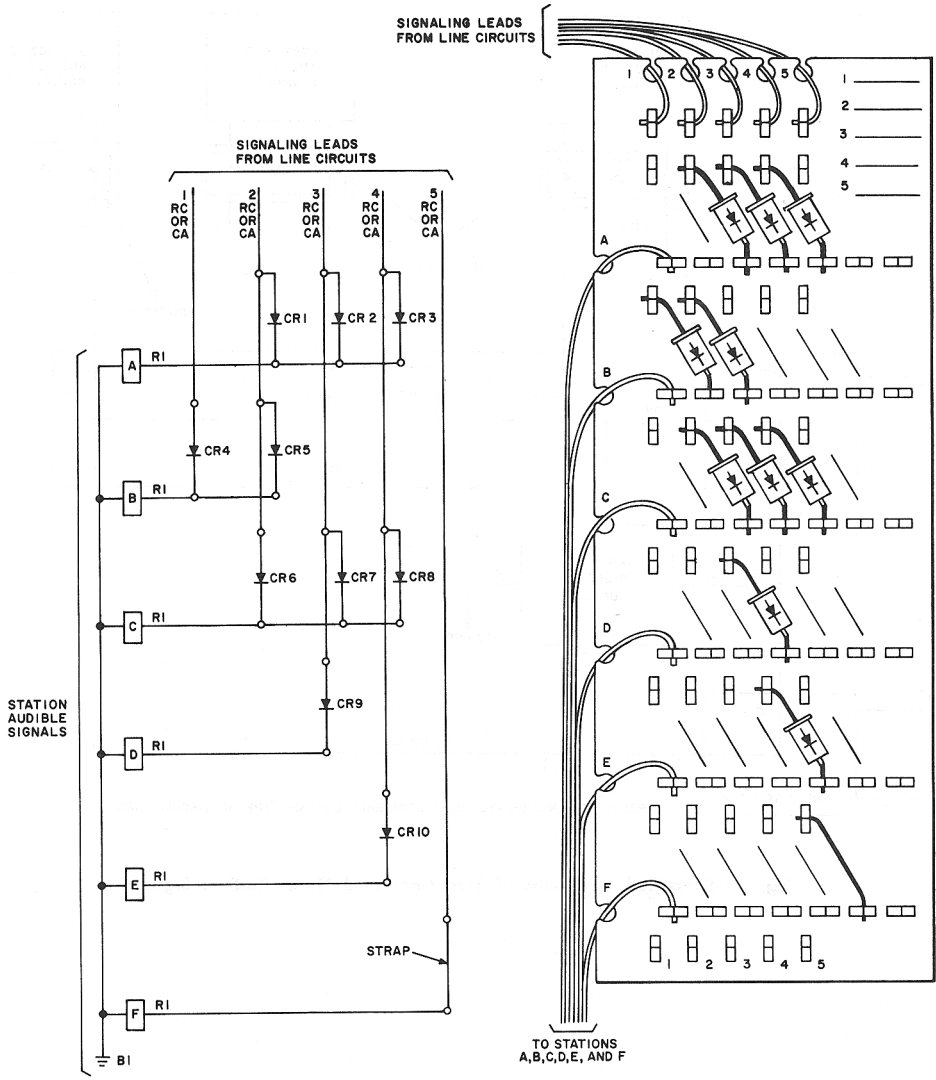

Fig. 4—1A1 Matrix Block Application
3.01 An example of a diode matrix installation is shown in Fig. 4. To the left is a schematic representation of the 1A1 matrix block at the right. Diodes (446 type or equivalent) are connected so their arrows point towards the station audible signals, permitting five signaling leads to control six audible signals. The block could also be wired to permit six signaling leads to control five audible signals by connecting the signaling leads at the left side (A-F) and the audible signals at the top (1-5). For this configuration all diodes must be connected so their arrows point toward the audible signals.
3.02 A strap is used to connect a signaling lead to an audible signal if neither is common to any other signaling lead or audible signal. An example of this is the strap between signaling lead 5(CA) and audible signal F (Fig. 4).
3.04 The matrix in Fig. 4 is arranged so that: